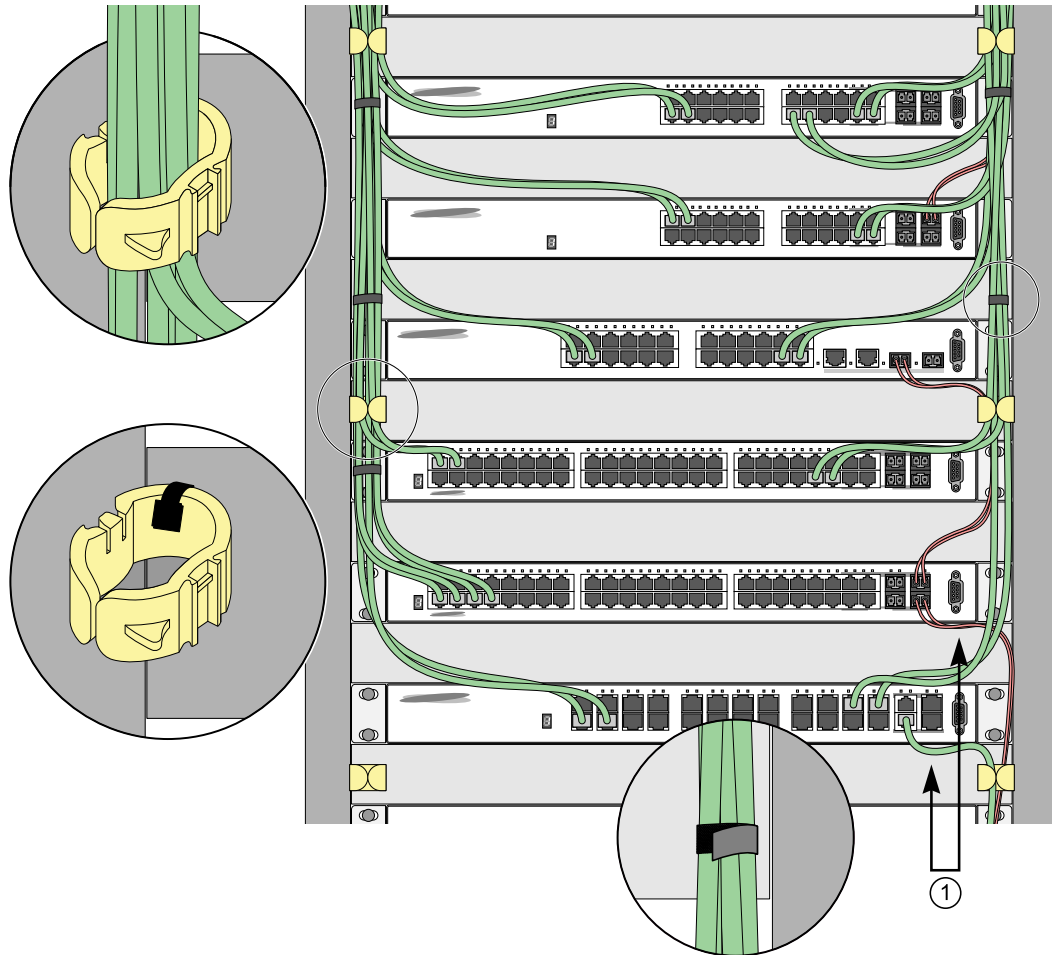

Figure 17: Properly Installed and Bundled Cable
- Provide enough slack, approximately 5 to 7.5 cm (2 to 3 in), to provide proper strain relief as shown in Figure 17 on page 35.
- When installing a patch panel using twisted pair wiring, untwist no more than 2.5 cm (1 in) of the cable to avoid radio frequency (RF) interference.